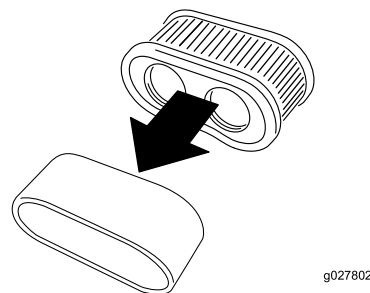

Figure 42
5. Remove the foam element from the paper element (Figure 42).